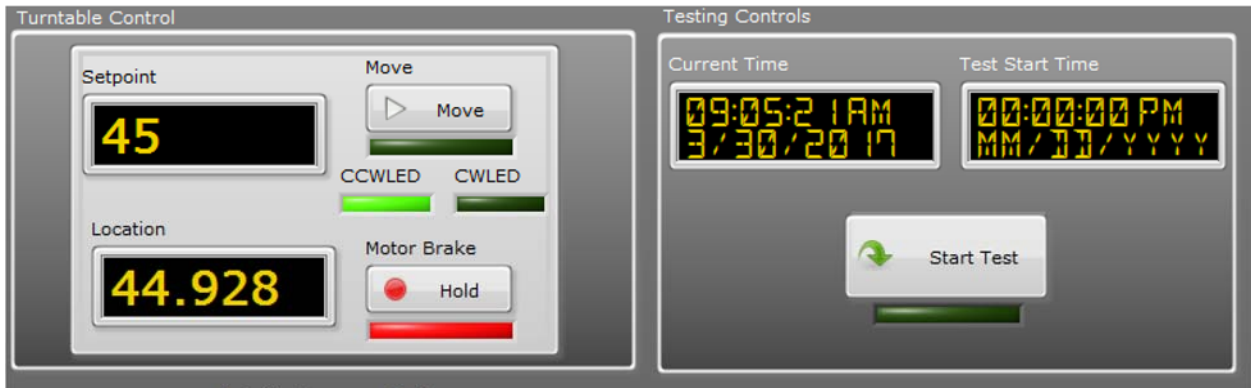

Figure 12. Turntable Controls
2.5.1 Refer to figure 12 and enter the desired angular position in the **Setpoint** data entry box and press the **Move** button. The program will automatically determine the correct direction of rotation and move to the desired position.